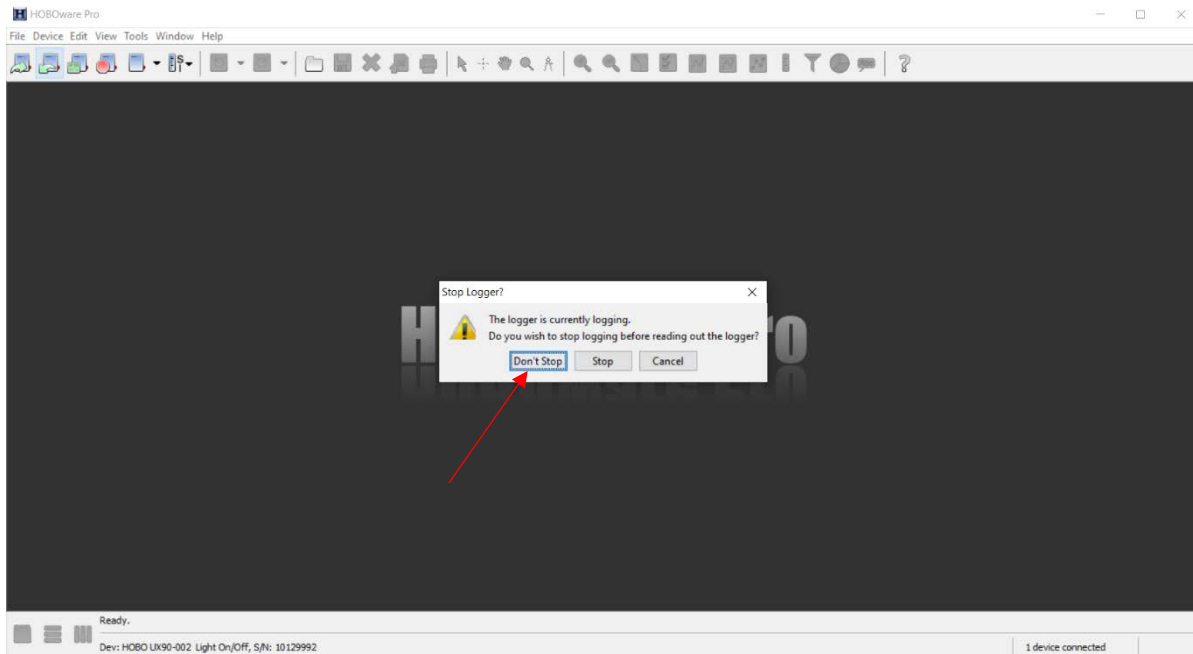

Figure A.1.13: “Stop Logger?” pop-up window.
4. The “Stop Logger” pop-up will appear (Figure A.1.13) asking if you want to stop logging. Click “Don’t Stop”.